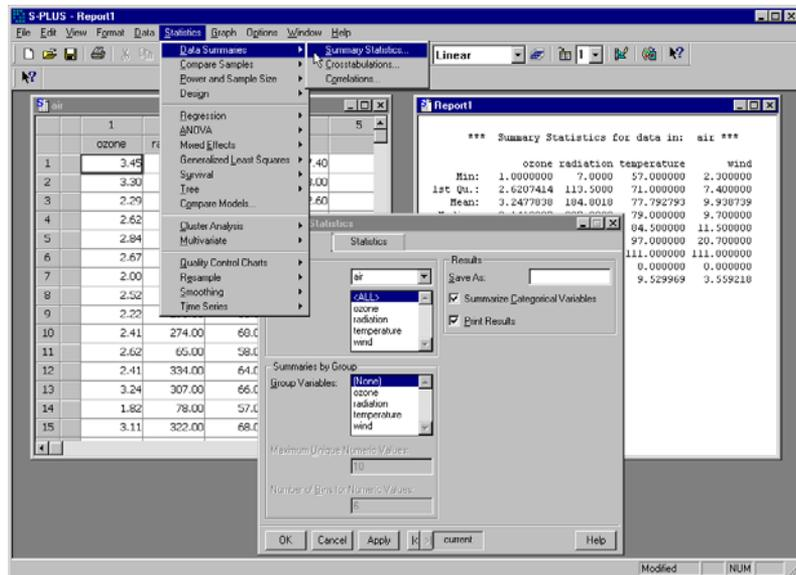

Figure 6.1: Statistics-related menus and windows.
Figure 6.1 displays many elements of the Spotfire S+ interface.
- **Statistics menu:** The **Statistics** menu gives you access to most of the statistical procedures available in Spotfire S+. The procedures are logically grouped, with submenus that allow you to precisely specify the procedure you want to use. For example, in Figure 6.1 the menu tree for summary statistics is shown. It is selected by choosing **Statistics ► Data Summaries ► Summary Statistics**.
- **Statistics dialogs:** The open dialog shown in Figure 6.1 entitled **Summary Statistics**, and is used to specify which data summaries to calculate.
- **Data Window:** The open window on the left in Figure 6.1 is a **Data** window, which you can use to create or edit a data set. See Chapter 2, *Working With Data*, for a detailed introduction to the **Data** window.
- **Report Window:** The **Report** window displays the results of a statistical analysis. In the example in Figure 6.1, a **Report** window shows the results of the summary statistics.